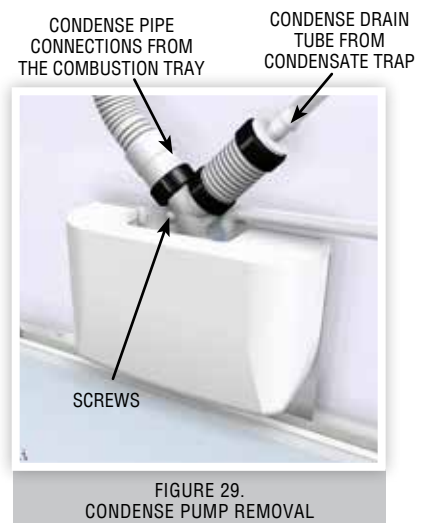

FIGURE 29. CONDENSATE PUMP REMOVAL
- 16.6.1 Refer to section 16.3 and 16.4. See Figure 29.
17.8.1 Refer to section 16.3. See Figure 29.